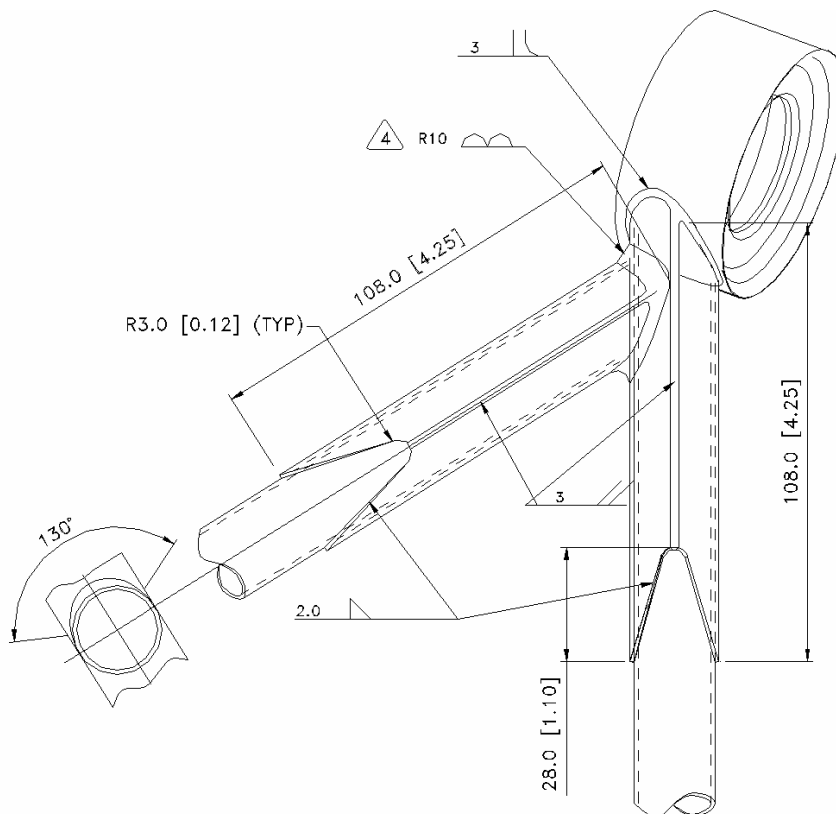
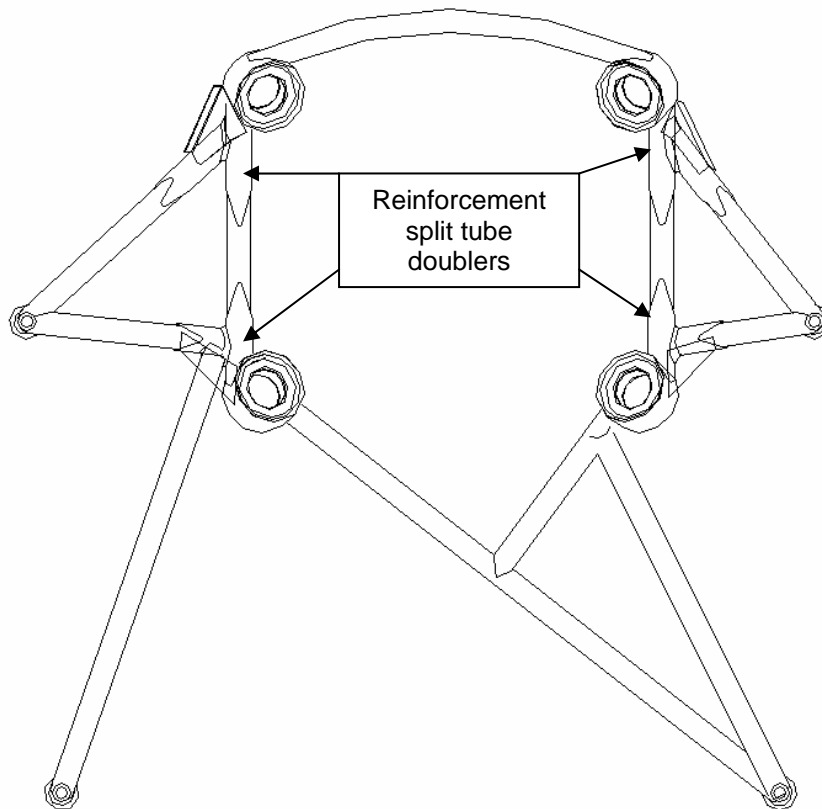

Figure 2.1: Outer Split Sleeve Repair welded over cracked area.
Figure 2.2: Four reinforcement locations.
place over any repaired cracks as shown in figure 2.1, figure 2.2 and drawing 97-71-041 making use of AMS6457 or AMS6458 filler wire.
- Form R10 fillets over the 130° nearest to the bobbin, by means of multiple weld runs. See note 4 in figure 2.1 below or note 5 on drawing 97-71-041. Blend out any irregularities and pitting to a smooth finish. All welds near the bobbin must be blended and free from pitting.